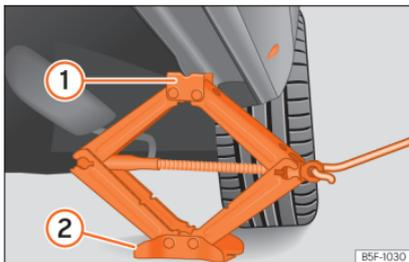

Fig. 79 Crossbar: mounting the jack on the vehicle.
- Turn the jack*, located below the strut support point, to raise it until tab ① >>> Fig. 79 is below the housing provided.
- Align the jack* so that tab ① "grips" onto the housing provided on the strut and the mobile base ② is resting on the ground. The base plate ② should fall vertically with respect to the support point ①.